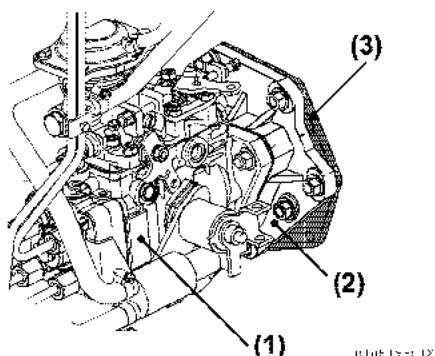

Figure 6-23
- Insert the VE pump and a new O-ring into the hole of the pump bracket. Verify that the key of the camshaft and the key groove of the drive gear are aligned. Lightly tighten the three nuts for the VE pump (Figure 6-23).